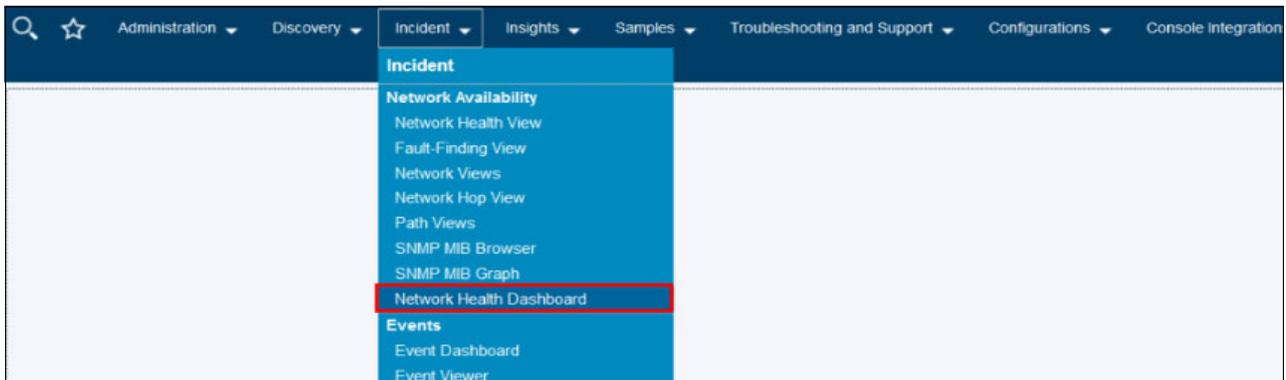

Figure 2-16 Accessing the Network Health Dashboard.
2. To access the Network Health Dashboard, browse to **Incident** → **Network Health Dashboard**, as shown in Figure 2-16.